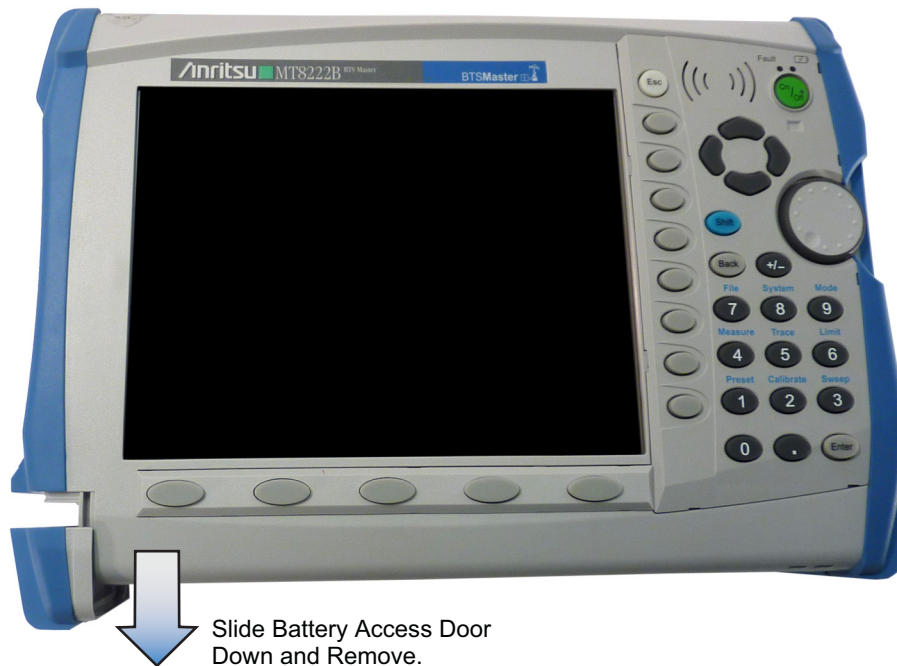

Figure 6-3. Removing the Battery Access Door
3. Remove the battery access door as shown Figure 6-3.